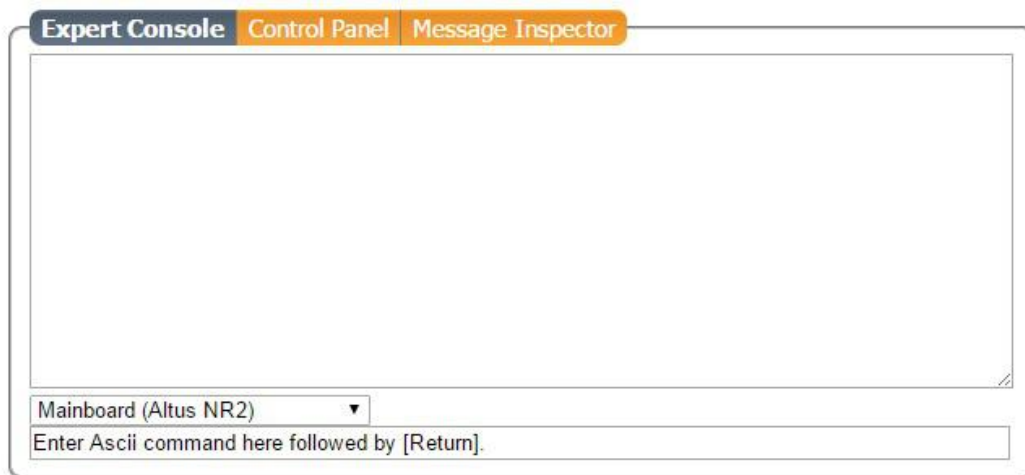

Figure 6-18: Web Interface Admin-Expert Console
- The drop-down box showing 'Mainboard (Altus NR2)' in Figure 6-18 allows selecting which of the Altus NR2's sub-systems to direct the command. The sub systems of the Altus NR2 are the Mainboard (Altus NR2), GNSS Receiver and the Cell modem. The command responses will be shown the window below the label 'Expert Console'.